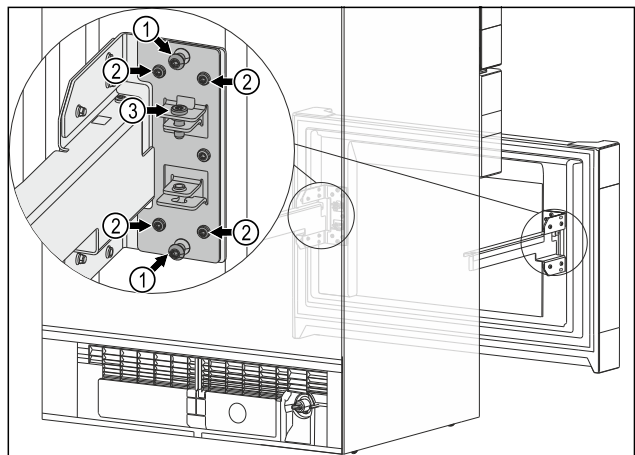

Fig. 14
- ▶ Remove the two centre screws Fig. 14 (1).
- ▶ Loosen all four screws Fig. 14 (2).
- ▶ The telescopic unit has reached its end position: Tighten all four screws Fig. 14 (2) tight.
- ▶ The centre screws Fig. 14 (1) are no longer needed.